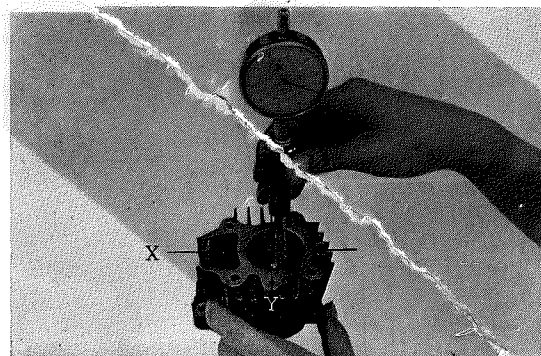

Fig. 35 Cylinder bore measurement
1. Inspect the condition of the cylinder bore. Measure diameter of the cylinder bore in both the X and Y directions at the top, center and bottom of the cylinder. (Fig. 35)